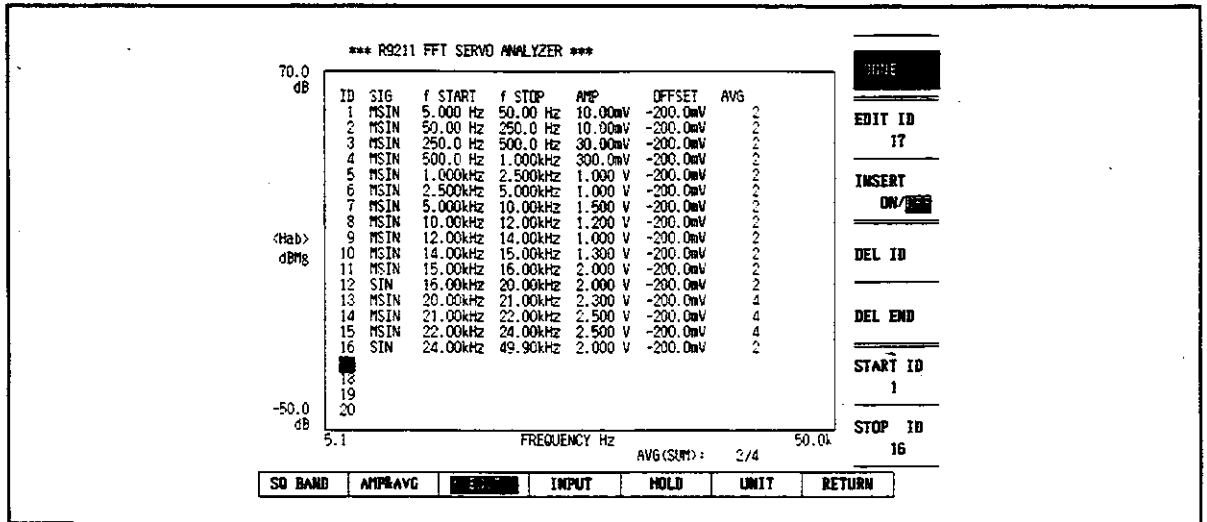

Figure 5-3 Example of a Frequency Table Setting Screen
- (3) A frequency table can be used to characterize the sweeping method, in order to achieve high-speed and high-accuracy. (See Figure 5-3.)